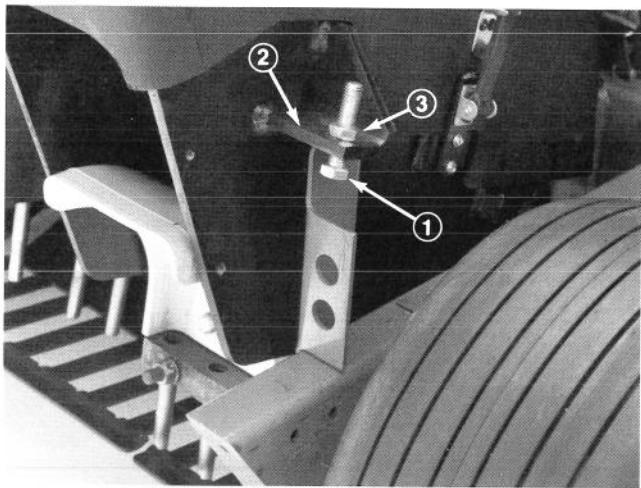

Figure 19
2. Loosen jamnut on top of adjusting bracket (Fig. 19).
3. Thread adjusting screw into bracket to increase coring depth and out to decrease depth (Fig. 19).
4. Maximum recommended coring depth is achieved when distance from end of screw head to bracket is 11/16" (.69) (Fig. 19).